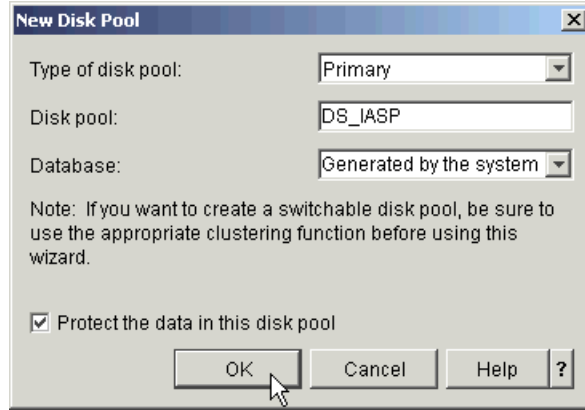

Figure 18-10 Defining a new disk pool
- On the New Disk Pool dialog shown in Figure 18-10, select Primary from the pull-down for the Type of disk pool, give the new disk pool a name and leave Database to default to **Generated by the system**. Ensure the disk protection method matches the type of logical volume you are adding. If you leave it unchecked, you will see all available disks. Select **OK** to continue.